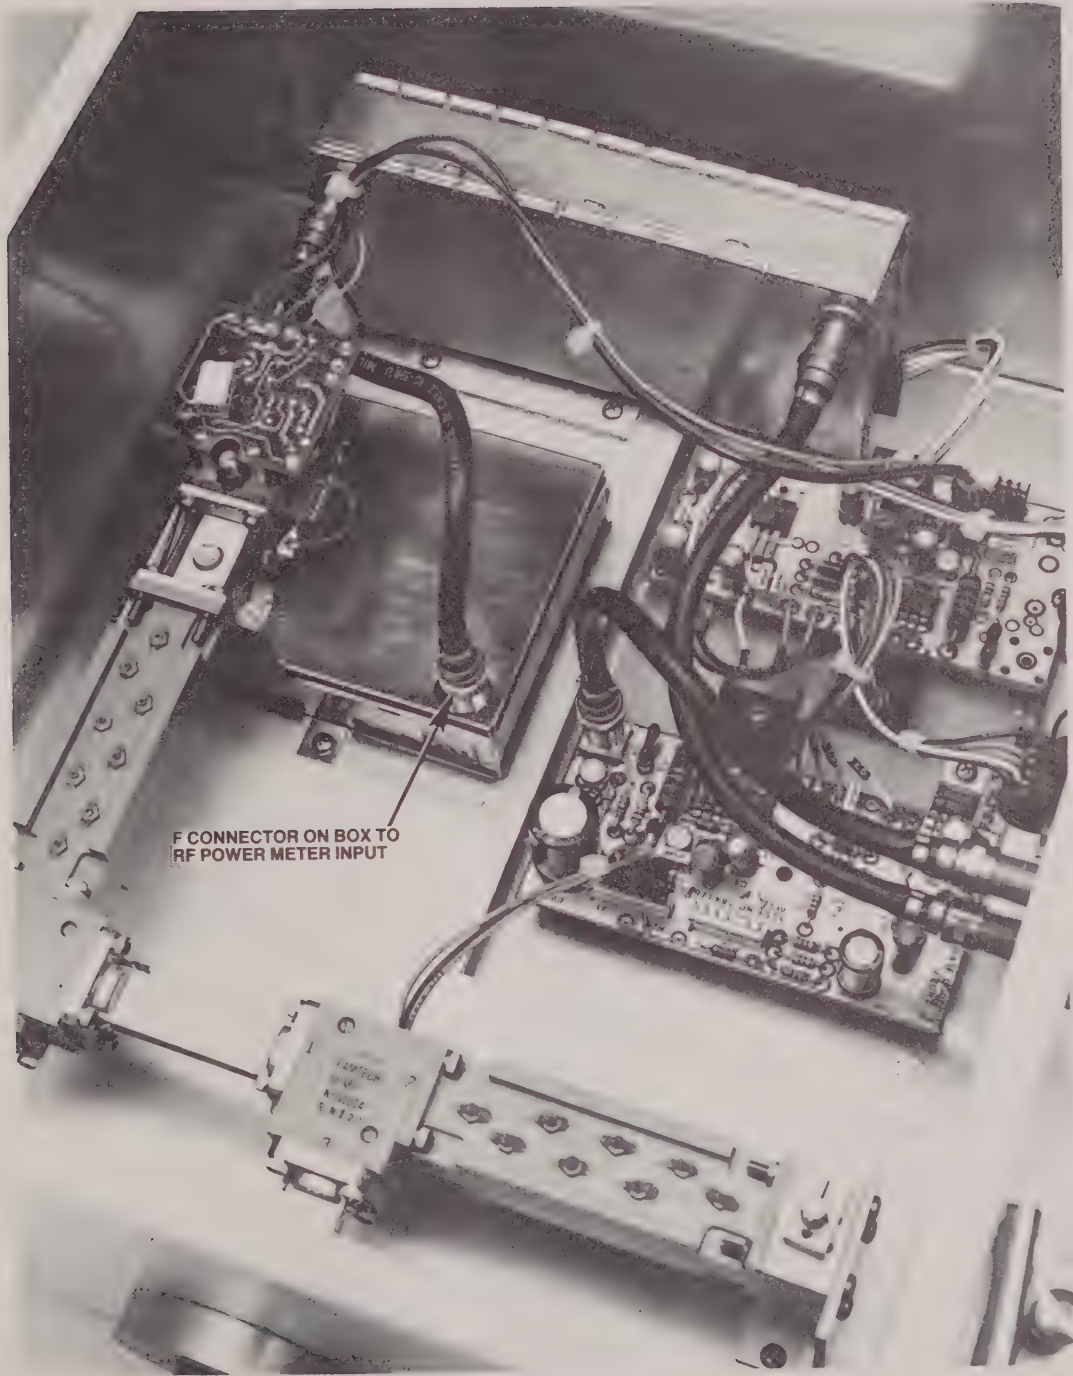

Figure 4-1. Disconnect F Connector Inside Receiver RF Unit to Access RCL Measurement by Power Meter (140 MHz Head)
Step 7. If a power meter with a 140 MHz head is available, disconnect F connector shown in Figure 4-1 inside Receiver RF Unit and measure the RCL (received carrier level). Figure 4-2 will provide the RCL *at the measurement point* which should be attained by proper antenna alignment for a range of path lengths. If this RCL value has not been attained by Steps 3 through 6 above, the following are among the most likely causes.
2. RCL at IF reference point of Receiver RF Unit (Figures 4-1 and 4-2).